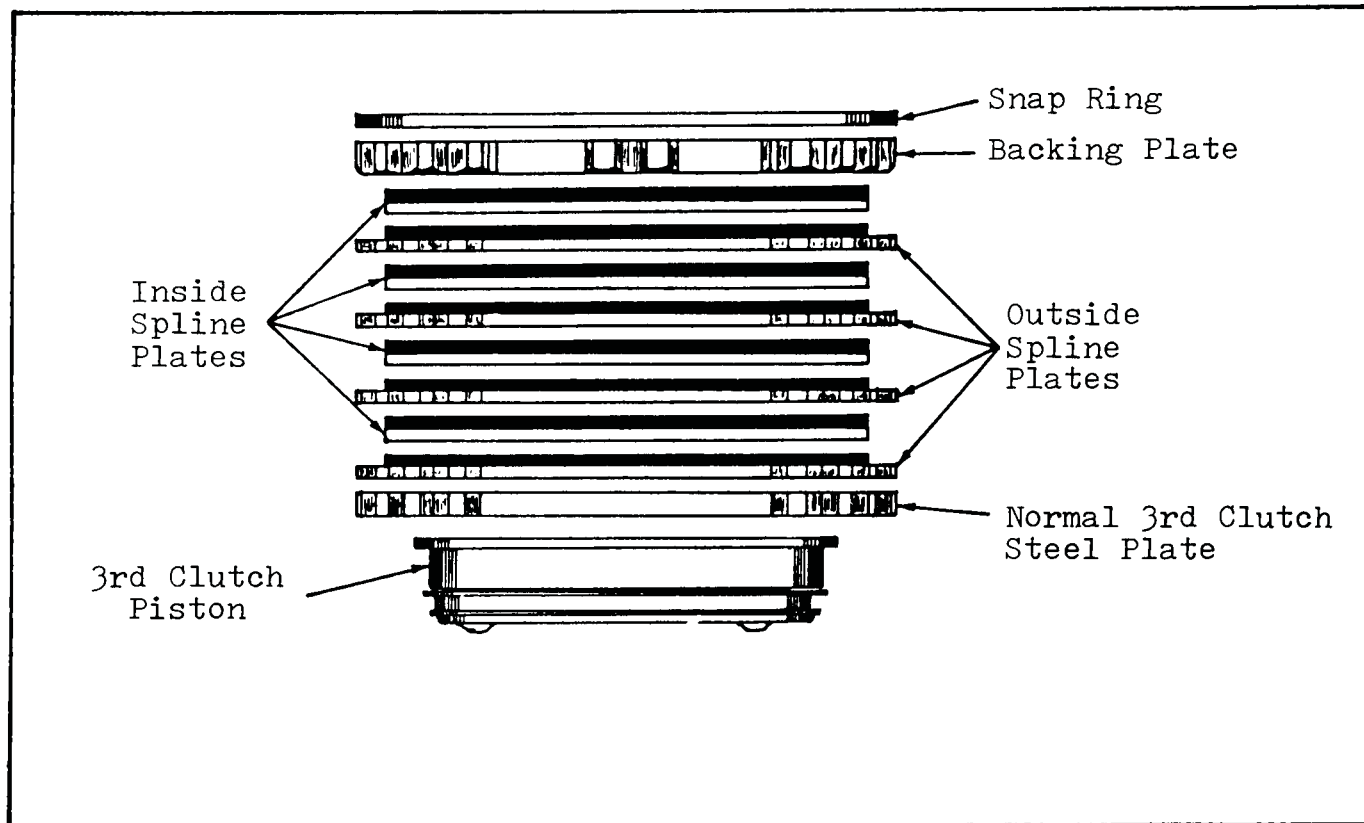

Figure 50
- 1) Third Clutch Plates - Single sided clutch plates requires new assembly procedures(See Figure 50).
The proper assembly procedures for the 3rd clutch pack on models 5CP, 5CM, and all 1986 up 440-T4 transaxles is shown in Figures 50 and 51.
Refer to Figures 50 and 51.